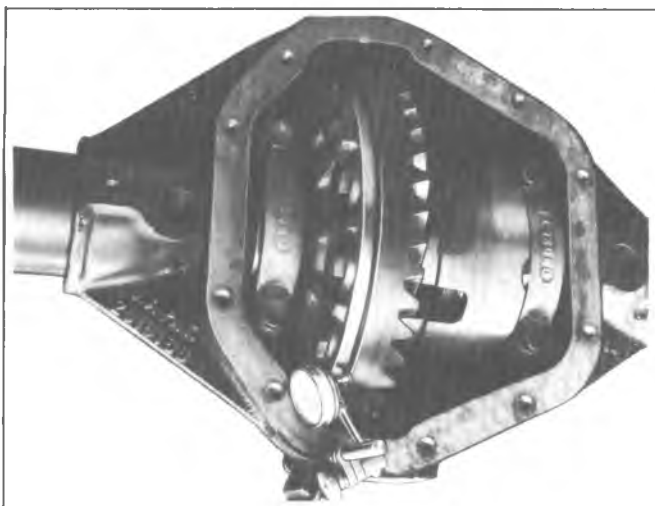

Fig. 19F--Checking Runout
7. Install dial indicator on carrier with indicator button contacting back of ring gear, as in figure 19F. Rotate
2. Install dial indicator on carrier with indicator button contacting back of ring gear, as in figure 19F.